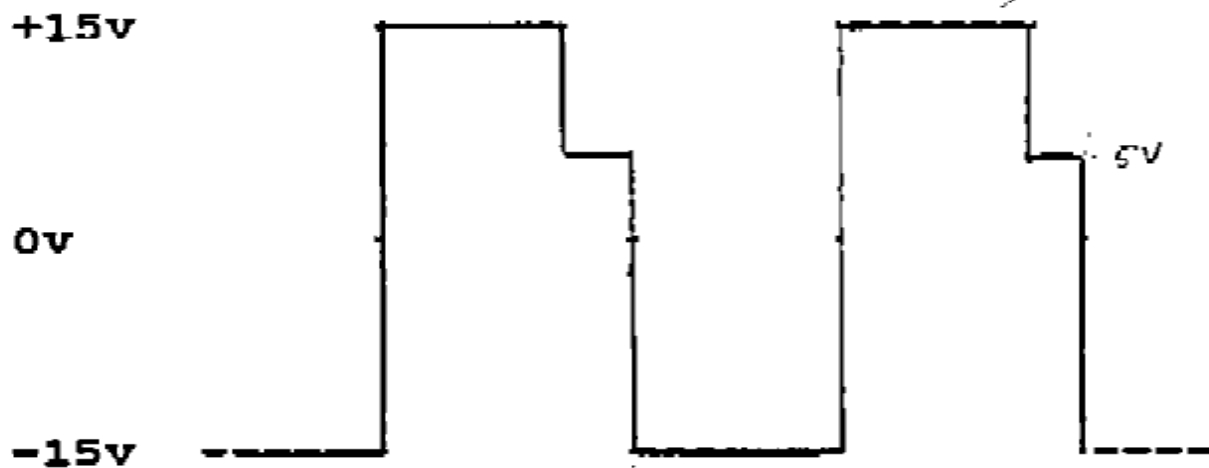

Figure 3
d. Observe figure3 on U3-pin1 at $\approx 1.2\text{kHz}$.